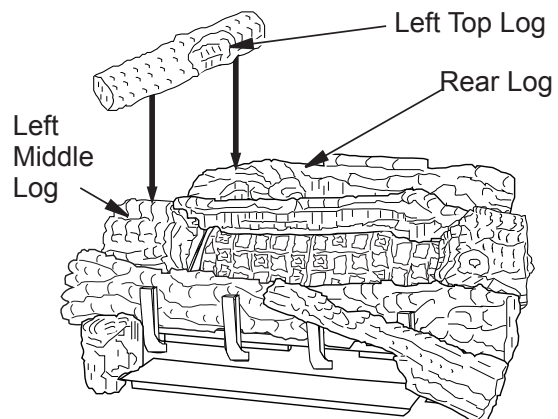

Figure 35 - Installing Left Top Log
- Place the left top log onto the rear log and the left middle log. Make sure to place the projection on the bottom of the left top log into the recessed areas on the rear and left middle logs (see **Figure 35**).